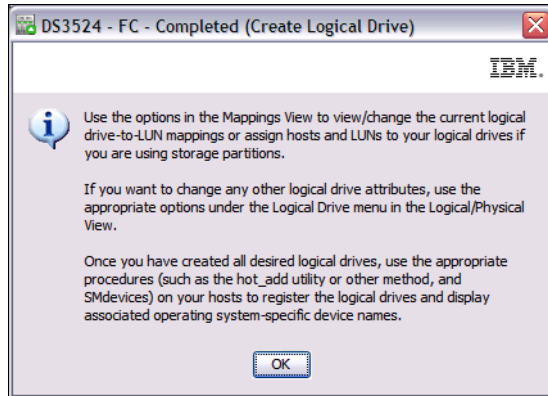

Figure 9-22 Create logical drive - Completed
7. The Completed window opens as shown in Figure 9-22 on page 237. Click **OK** to finish.